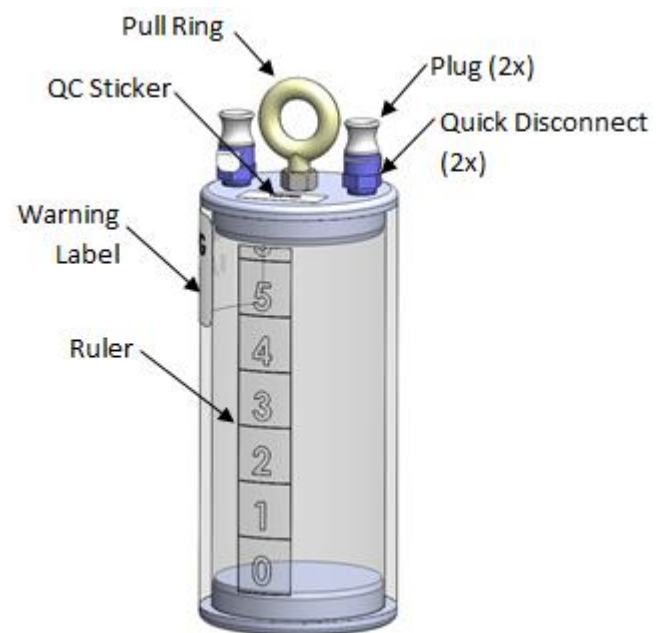

Figure 5: Vacuum tank.
- b. Just prior to use, install elbow tube fittings on each side of a new discard control valve and use the assembly to bridge between discard tank and vacuum tank as shown in Figure 5.
- c. Use a male quick disconnect (QD) to connect the vacuum tank to the tube leading to the pump.